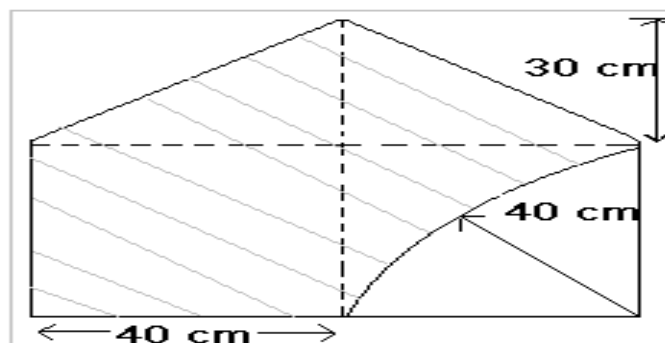

Fig:2
3. Find the centroid of the shaded figure shown in fig. 2 [10]